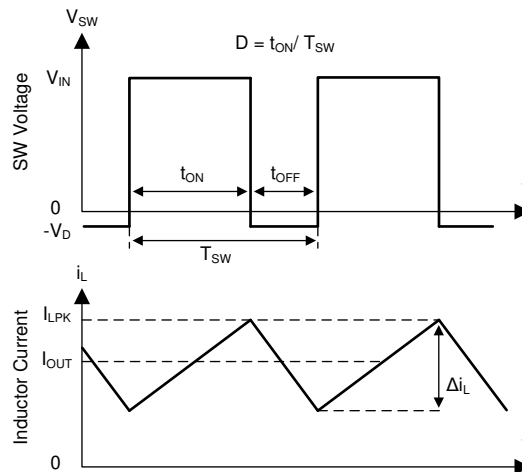

図 7-1. SW Node and Inductor Current Waveforms in Continuous Conduction Mode
The following operation description of the LM76005-Q1 refers to セクション 7.2 and to the waveforms in 図 7-1. The LM76005-Q1 supplies a regulated output voltage by turning on the internal high-side (HS) and low-side (LS) NMOS switches with varying duty cycle (D). During high-side switch on-time, t_{ON} , the SW pin voltage V_{SW} swings up to approximately V_{IN} , and the inductor current, i_L , increases with linear slope. The HS switch is turned off by the control logic. During the HS switch off-time, t_{OFF} , the LS switch is turned on. Inductor current discharges through the LS switch, which forces the V_{SW} to swing below ground by the voltage drop across the LS switch. The regulator loop adjusts the duty cycle to maintain a constant output voltage. The control parameter of a buck converter is defined as duty cycle $D = t_{ON} / T_{SW}$. In an ideal buck converter, where losses are ignored, D is proportional to the output voltage and inversely proportional to the input voltage: $D = V_{OUT} / V_{IN}$.